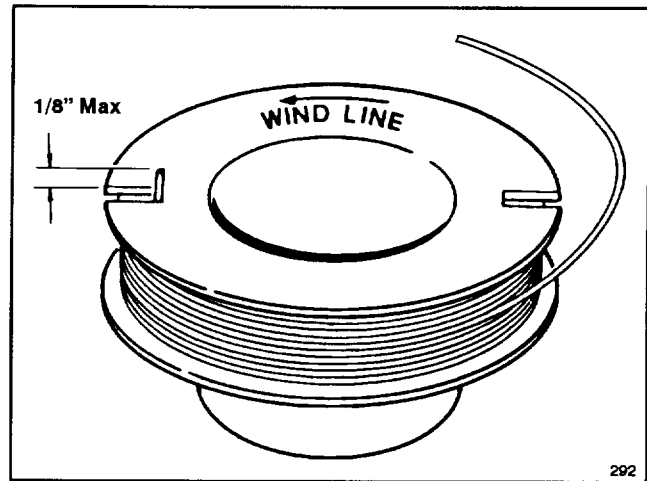

Figure 19
- A. Hook one end of line into groove on spool, allowing no more than 1/8" to protrude. Wind line in direction of arrows on spool in level rows between spool flanges (Fig. 19).